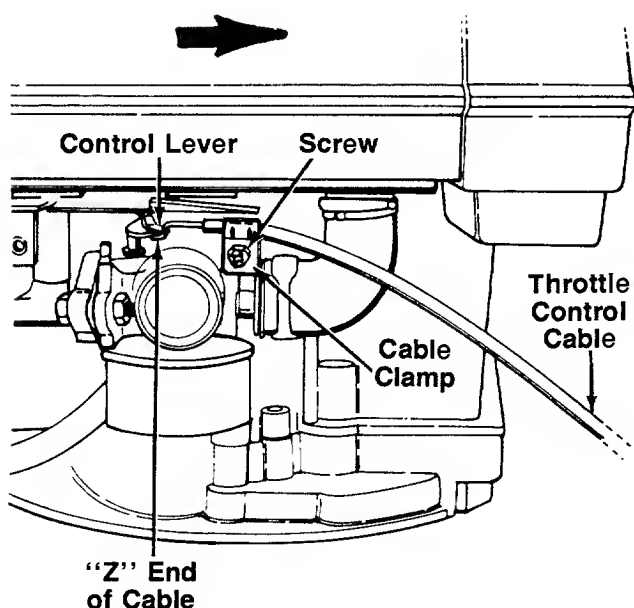

FIGURE 8C.—Model 508R
2. The throttle control cable is attached to the upper handle. Route the throttle control cable under the lower handle and inside the handle mounting bracket. Hook the "Z" end of the throttle control cable into the control lever on the engine as shown in figure 8C.
3. Loosen (do not remove) the screw on the cable clamp shown in figure 8C. Slip the control casing under the clamp (cable must move freely beneath the clamp).